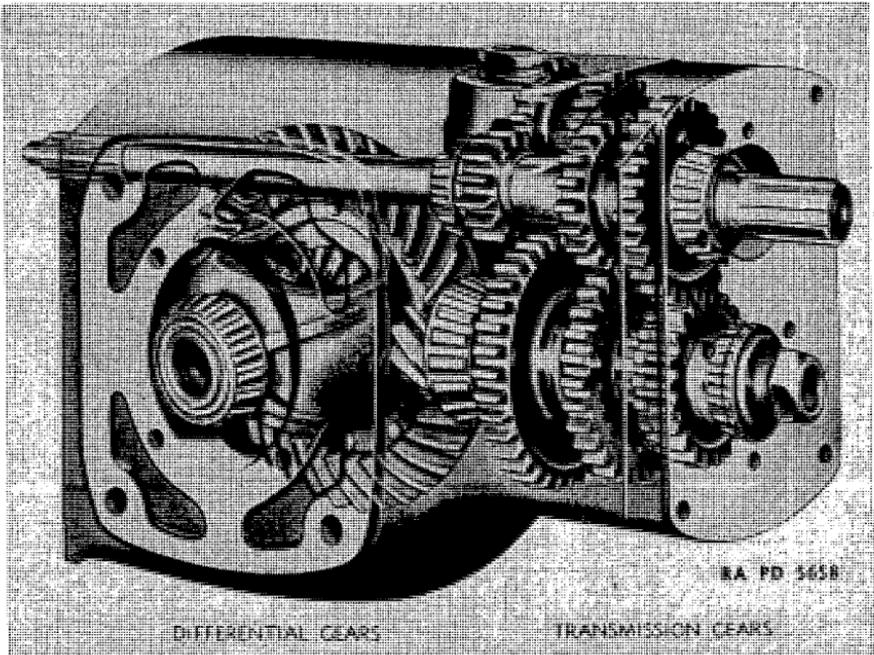

FIGURE 21.—Transmission and differential—phantom view.
**57. Transmission and differential.**—*a. Description.*—The transmission and differential are both installed in the same case, as shown in figure 21. The transmission provides three forward speeds and